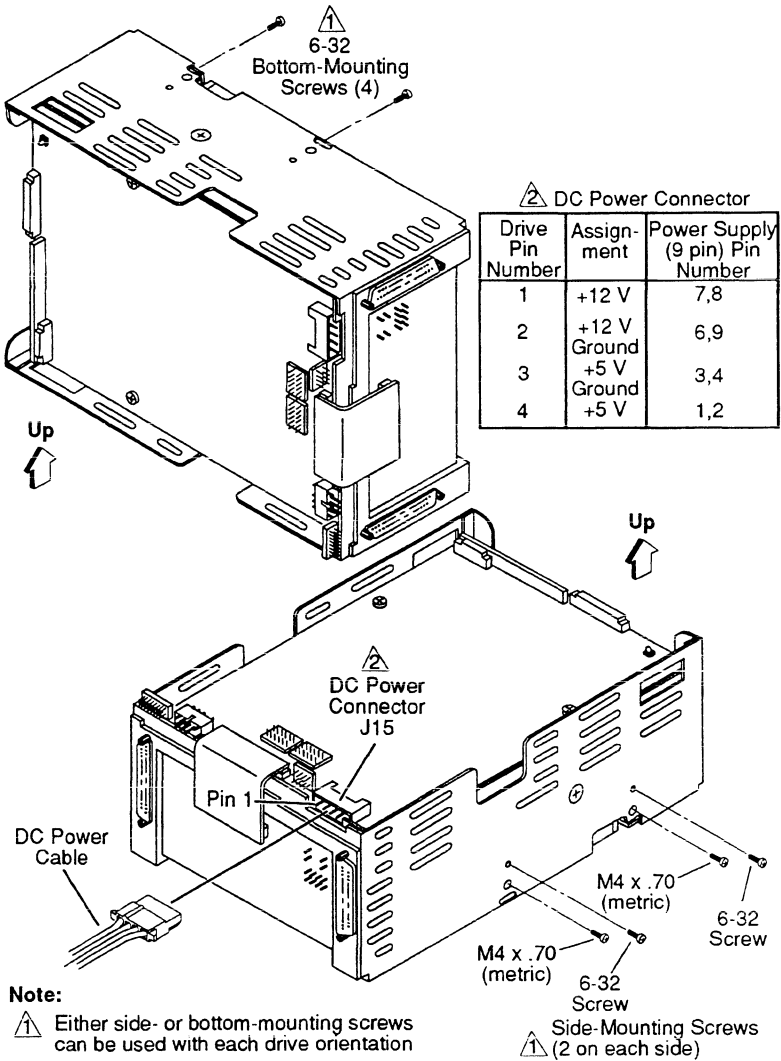

Figure 10. Mounting the drive
As described earlier in this section, the drive may be secured to the enclosure via tapped holes in either the sides or the bottom of the drive chassis. That topic discussed the three allowable mounting orientations. Figure 10 shows two of the three allowable orientations. You may find it convenient to make normal switch settings on the drive before mounting it in the cabinet.
1. Place the drive into position in the enclosure and secure with four screws as shown in Figure 10.